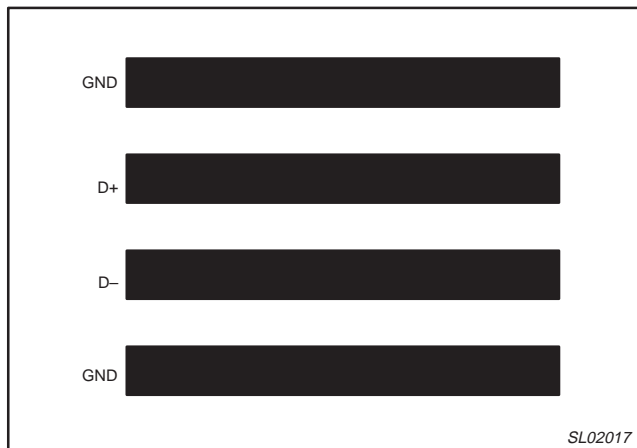

Figure 18. D+ and D– trace layout.
2. Route the D+ and D– lines parallel and close together with ground guards enclosing them (see 'Ideal diode trace layout', Figure 18).